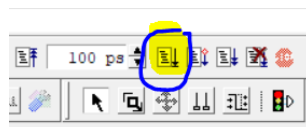

Figure 9: Run button
11. Hit the run button in the ToolBar Fig.9.